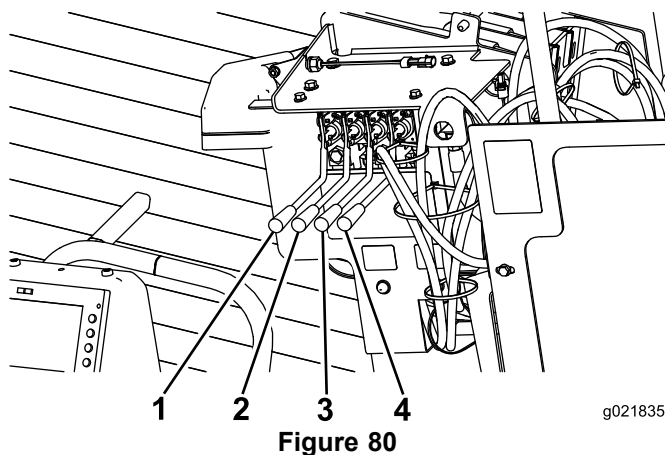

Figure 80
11. Press the 2 right stake levers in to lower and spin the right stake auger until it seats fully (Figure 80).